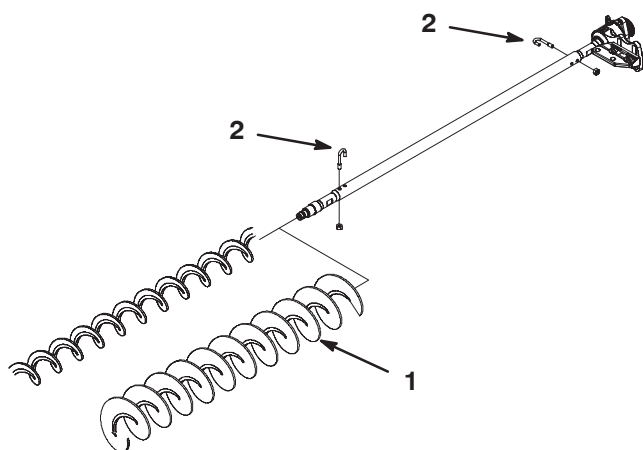

Figure 34
3. Remove the (2) J-bolts and nuts (Fig. 34).
4. Slide the existing brush off the brush shaft (Fig. 34).
5. Slide the high height of cut brush onto the brush shaft (Fig. 34).
6. Clamp the brush onto the shaft with the (2) J-bolts and nut previously removed (Fig. 34).